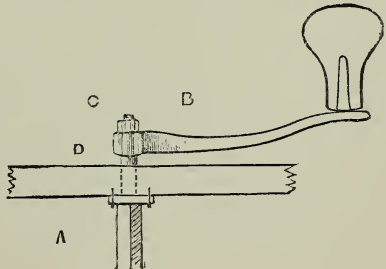

Fig. 3.
The spindle of the large iron wheel is made round at D, Fig. 3, where it works in the floor of the bench. That hole should be lined with soft leather, fitting the spindle like a glove, and kept well oiled. An iron plate (A) keeps the spindle in position. The spindle is, of course, *square* where the crank grips it at B, and a nut (C) screwed tight keeps the crank in position.